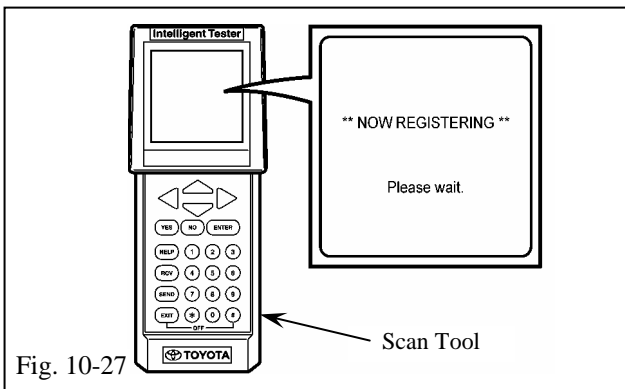

Fig. 10-27
- (ab) Verify the screen. Wait a few minutes. (Fig. 10-27)